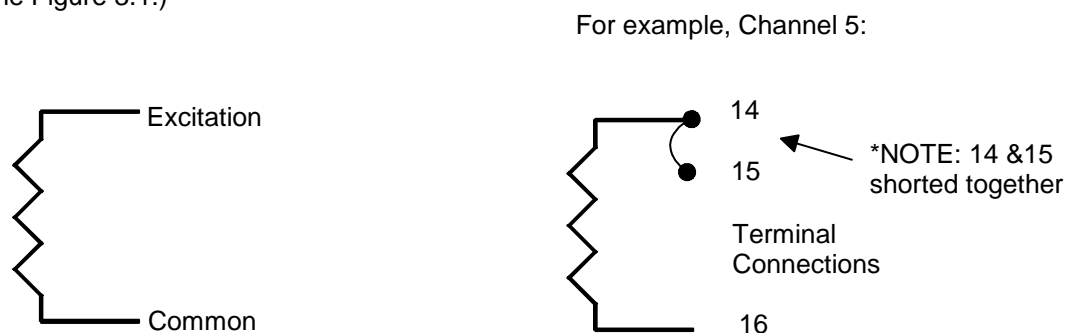

Figure 3.3 – Two-Wire Connection
3.1.2.1 Figure 3.3 shows how to make a two-wire connection with an RTD module.